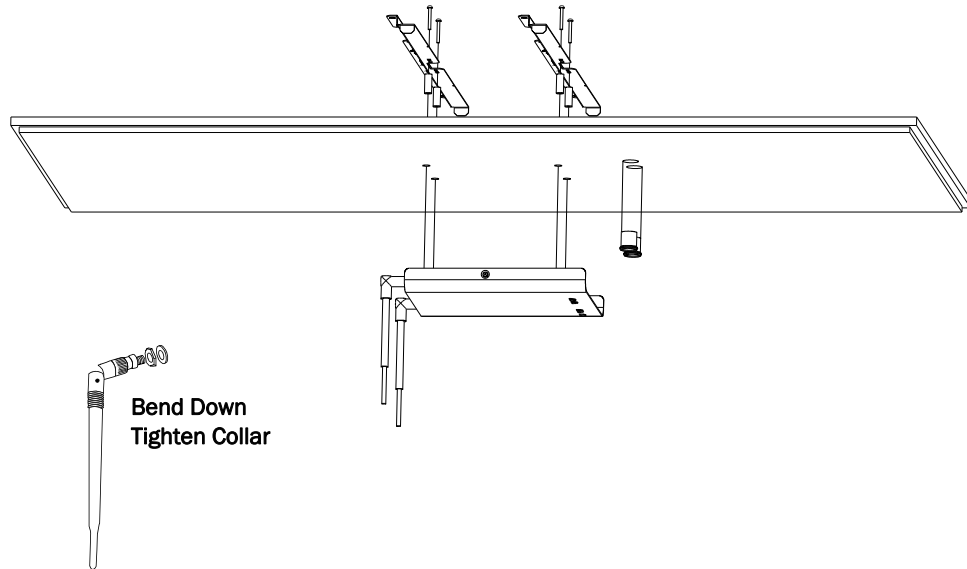

Figure 2-8: Mounting the Core AP Below a Ceiling Tile (Fixed Mount)
7. Insert the four (4) M3-.5 X 30 lobe screws into the Core AP mounting rail holes, through the provided plastic spacers, through the tile, and into the mating holes in the back of the Core AP as shown in Figure 2-8. Torque-tighten each screw to 8-inch lbs.